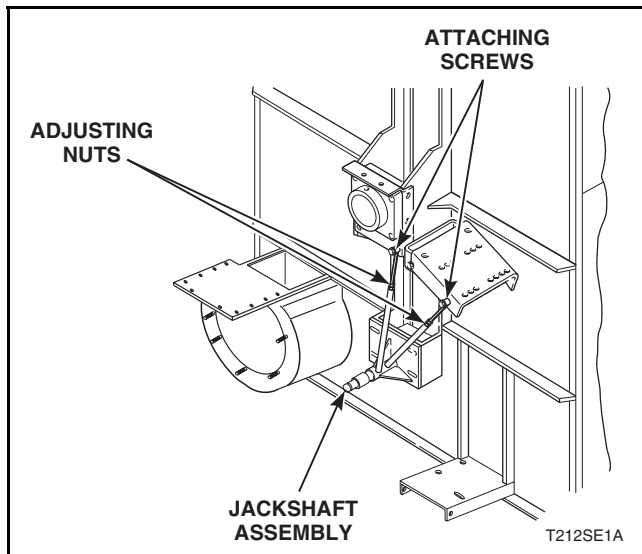

Figure 14
- d. Rotate the adjusting nuts counterclockwise (approximately three turns). Refer to *Figure 14*.